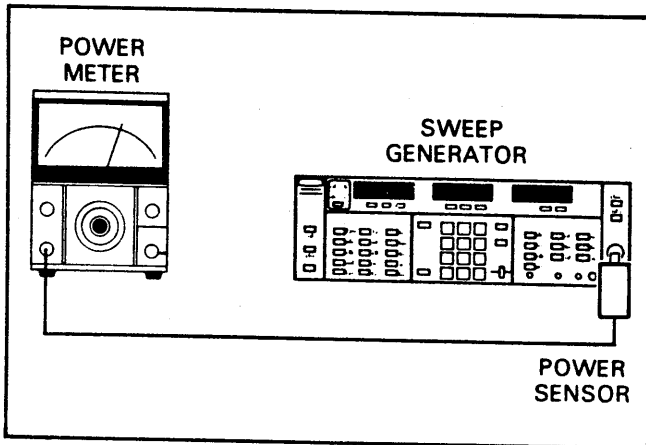

Figure 5-39. Test Equipment Setup for RF SLOPE and Power Level Adjustments
1. Set up the test equipment as shown in Figure 5-39, and turn the equipment on.